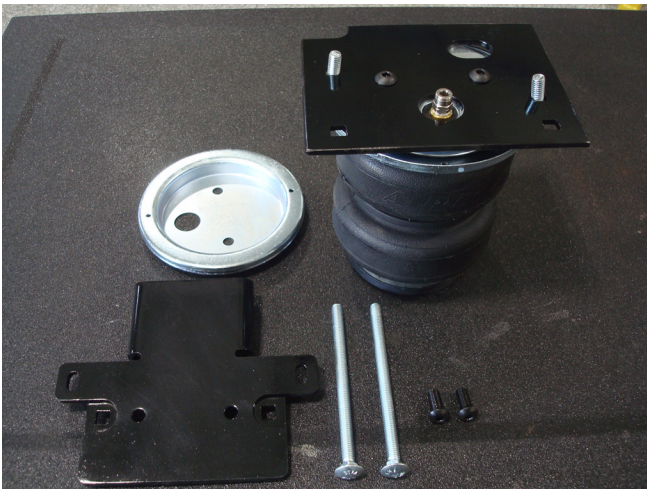
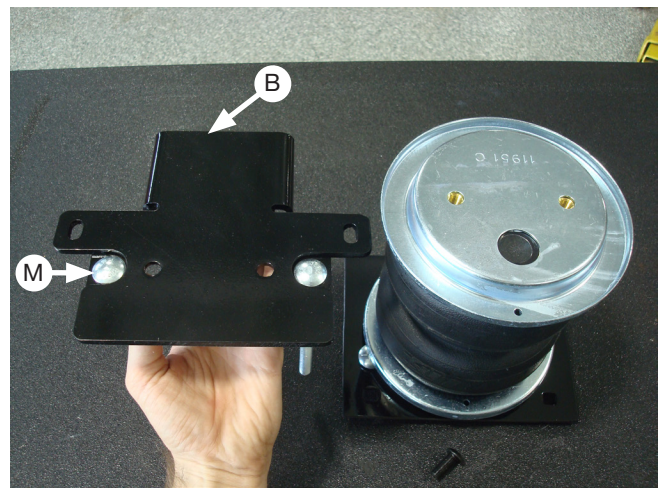

Fig. 14
Fig. 15
- Install the lower bracket onto the air spring using a roll plate (H), lower bracket (B), two long carriage bolts (M) and button head screws (J) (Fig. 14). Flip the air spring assembly over and place the roll plate on the air spring, then put the carriage bolts through the lower bracket as shown in Figure 15.